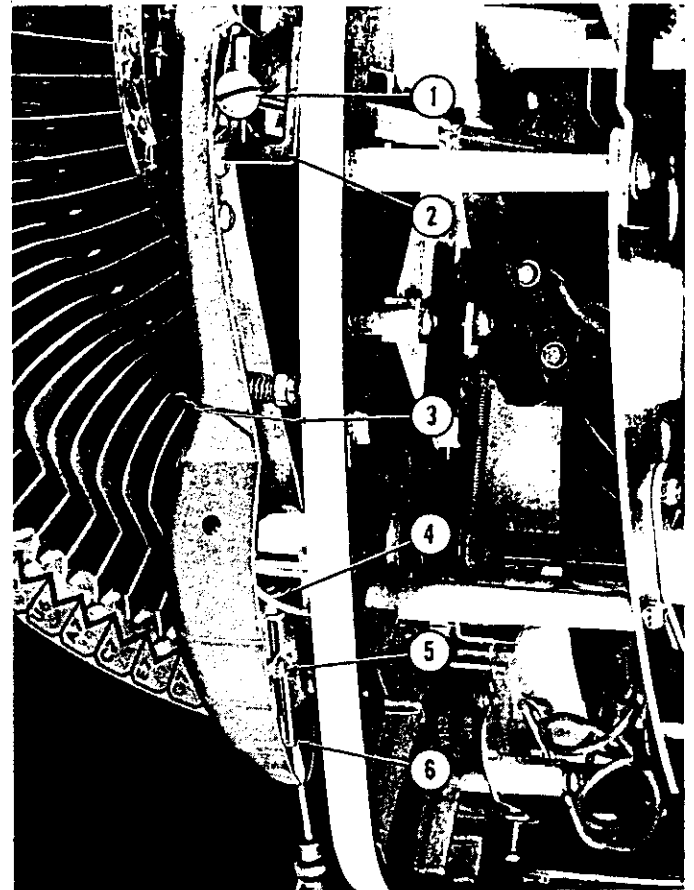

Fig. 92. TONE ARM BALANCING
w. Tone Arm Balancing. (Fig. 92)
The tone arm should be very carefully balanced on its gimbal by means of the balancing weight and bracket assembly shown in Item 5, Figure 92. When in good balance and otherwise in good adjustment, the tone arm should have no greater than 1 gram tendency to move in either direction from any point in its normal travel. Also, its tendency to remain in one place should be no greater than 1 gram. To properly balance the tone arm proceed as follows:
(1) Without a record, advance the cycle of the record changer to its playing position and turn off the power.
(2) Tie a short piece of fine thread around the tone arm and gimbal bracket as shown in Item 3, Figure 92. This tie should be drawn just tight enough to free the tone arm latch equally from either side of the feed-in screw (Item 1).